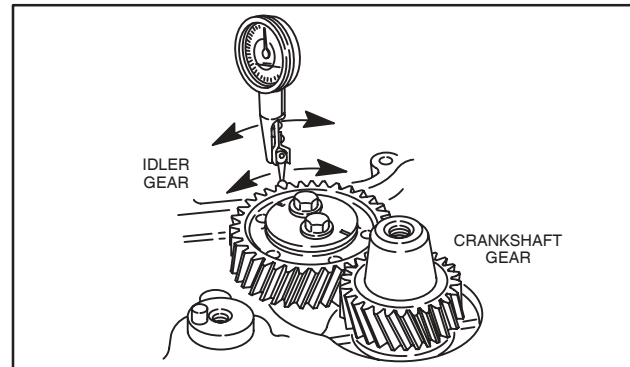

Fig. 6 – Checking Idler Gear Backlash
Make sure that #1 cylinder is at TDC, compression stroke. See Section 2, Fig. 6.
1. Check gear backlash between idler gear and crankshaft gear using dial indicator as shown in Fig. 6.